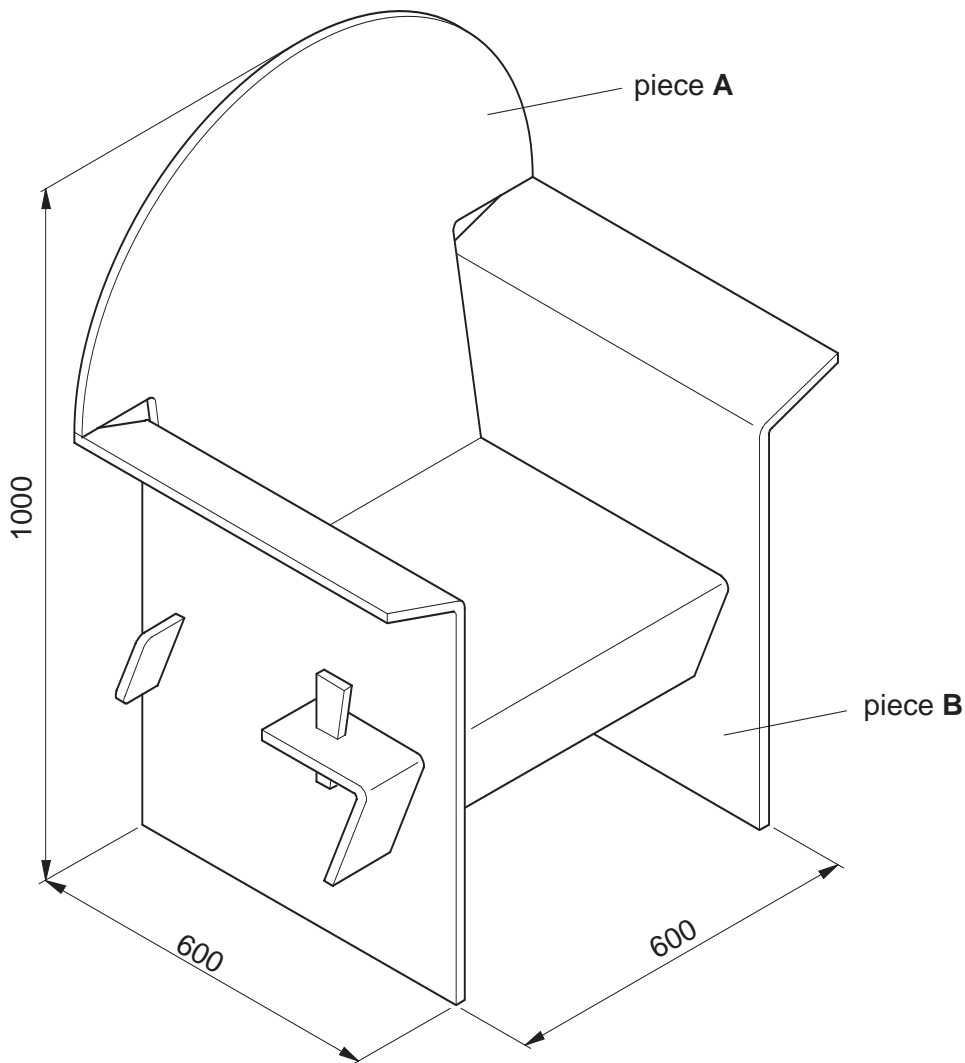

Fig. 8
- 8 Fig. 8 shows a full-size chair made from corrugated cardboard.